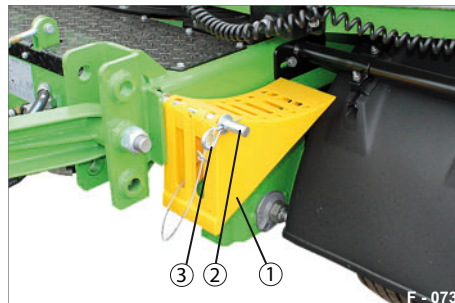

Fig. 101 Wheel chock on retaining bolt
- ▶ Remove the spring pin (Fig. 101/3). Remove the washer.
- ▶ Remove the wheel chock (Fig. 101/1).
- ▶ Fit the wheel chock onto the retaining bolt (Fig. 101/2).
- ▶ Secure the wheel chock using the spring pin (Fig. 101/3) and washer.